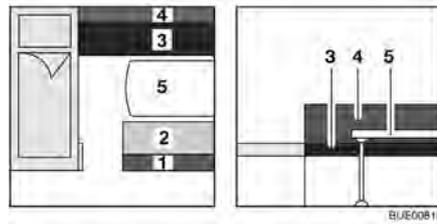

Fig. 92 Prior to conversion
- Convert the table (Fig. 92,5) to a bed foundation (see section 6.11).
- Remove the back cushions (Fig. 92,1 and 4) and the seat cushions (Fig. 92,2 and 3).